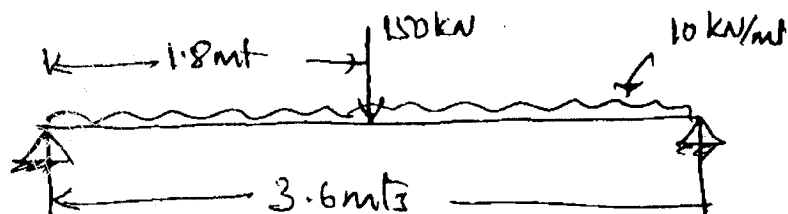

Fig.Q8(b)
- b. Find the maximum slope and maximum deflection for simply supported beam shown in Fig. Q8(b) by "Moment Area Method". (10 Marks)